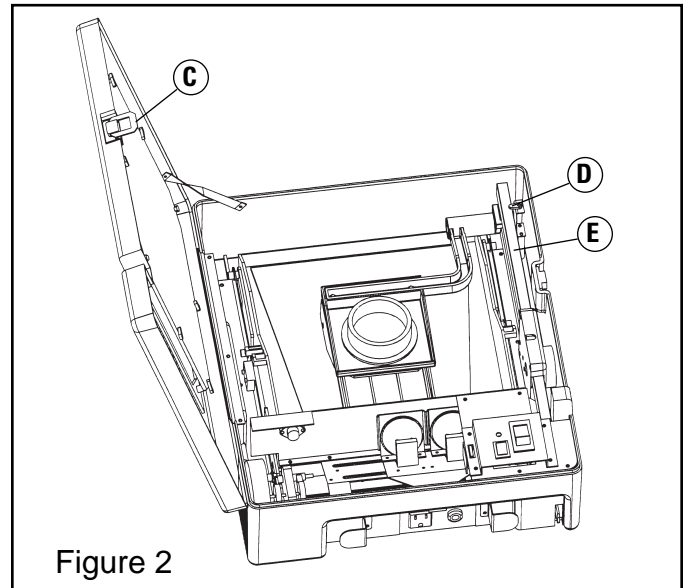

Figure 2
5. Release the lid latch (C) on the side opposite the carrying handle and open the lid (see figure 2).